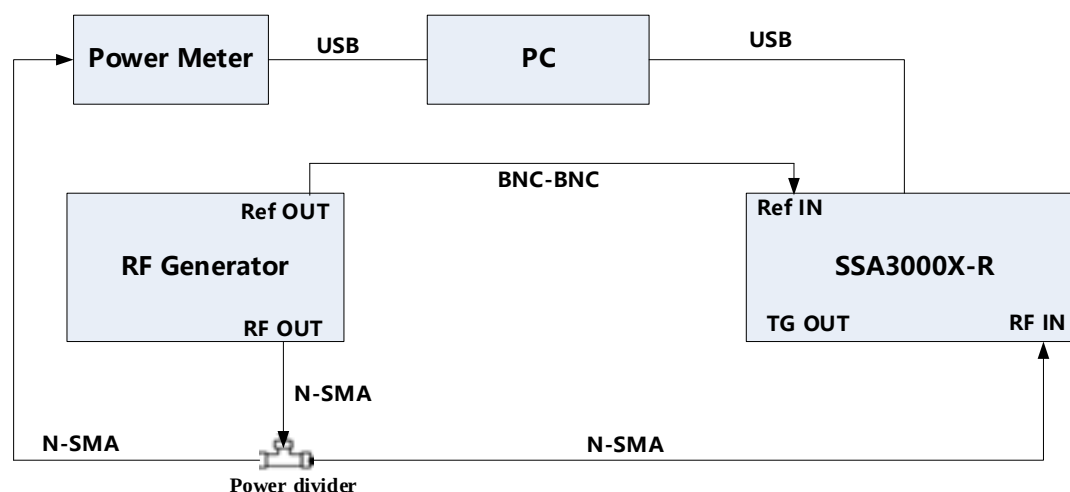

Figure 3-1 Absolute amplitude accuracy connections
1. Connect the spectrum analyzer, signal generator, and power meter as in figure 3-1